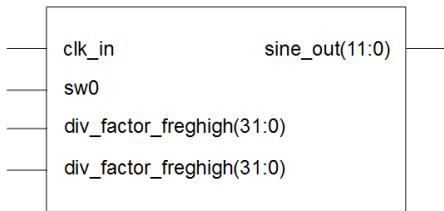

Figure 6.1: Digital Sine Top block diagram
- **Usage:** This module will merge Frequency Trigger, Counter, Sine package and Digital Sine module into one Digital Sine Top module (Figures 6.1 and 6.2). It will have four input ports: one will be used for input clock signal (*clk_in*), the second one will be used for changing output signal frequency (*sw0*) and the last two ports (*div_factor_freghigh* and *div_factor_freqlow*) will be used for specifying input clock division factors. The only output port will represent the current amplitude value of the desired sine signal.